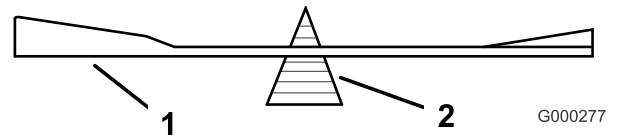

Figure 94
2. Check the balance of the blade by putting it on a blade balancer (Figure 94). If the blade stays in a horizontal position, the blade is balanced and can be used. If the blade is not balanced, file some metal off the end of